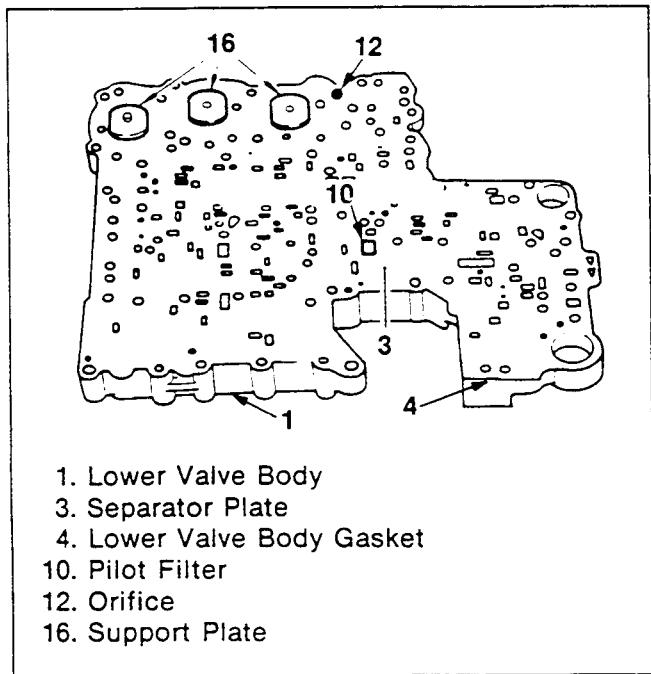

**Figure 95. Orifice and Filters Installation**
**Lower Valve Body Gasket (Figures 95 and 96)**